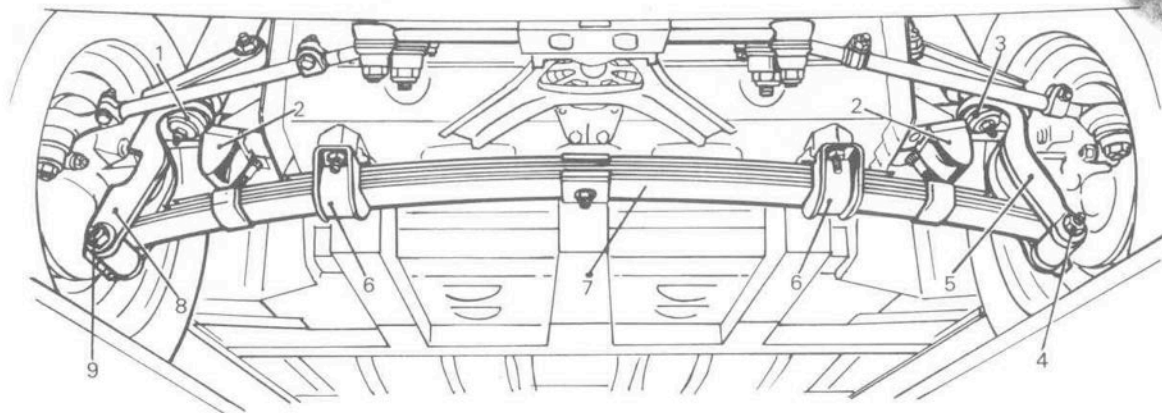

FIG 8:1 Underneath view of front suspension
- 1 Disconnect the outer steering ball joints from the steering arms, using a suitable tool such as Fiat A.47035. **Do not try to hammer the ballpin out of the arm.** From inside the vehicle, disconnect the top end of the dampers. Hold the stud by the flats provided, unscrew the nut and lift off the washers and rubber bush (see parts 1, 2, 3 and 4 in **FIG 8:4**).
- 2 Disconnect lower end of damper from knuckle pillar (see **FIG 8:3**). Remove nuts 4 and slide the assembly off the studs. **Take particular note of the number and position of the shims 2.** These are used to adjust castor and camber angles.
- 4 Fit a suitable crossbeam across the spring eyes or use two jacks and just take the weight without lifting. This will keep the spring compressed while the spring mounts are removed (see 6 in **FIG 8:1**). Gradually lower the jacks until the spring loses all tension and remove the spring complete with knuckle pillar assemblies.
Key to Fig 8:1 1 Nut, damper to knuckle pillar 2 Rubber buffers 3 Nut, damper to knuckle pillar 4 Nut, spring eye pin
The components of the suspension system are shown in FIGS 8:4 and 8:5. Dismantling is a straightforward removal of the bolts or pins securing the spring eyes and control arms to the knuckle pillar, and the nuts at the outer ends of the control arm shaft. The spring may be dismantled by removing the centre bolt and the two side clips. Withdraw control arms with a puller.